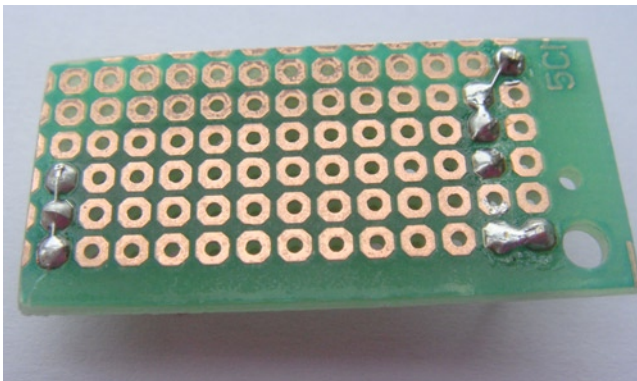

Figure 8-10. Bottom side of the battery holder
8. On the bottom side, connect the solder pads together to form a track. If you're having issues with this, use a small strip of wire and the solder will stick to the wire and the underlying pad. Figure 8-10 shows how I have done this.